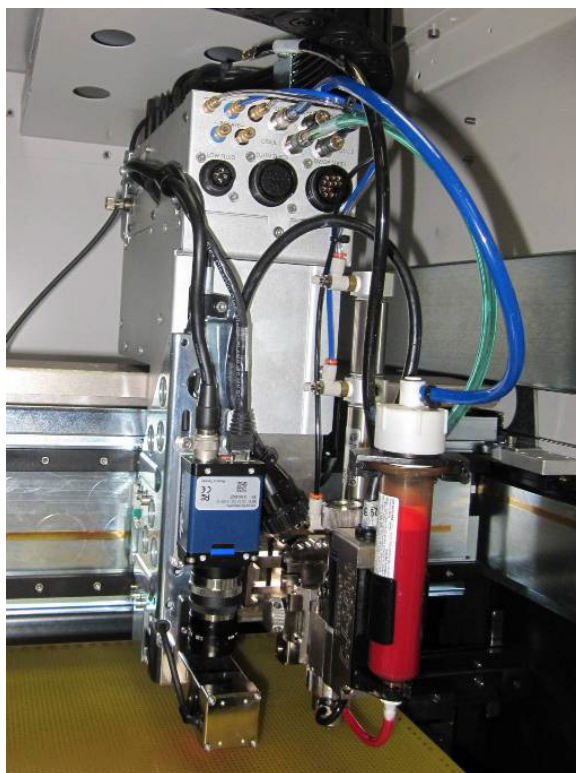

Figure 3-7 Valve Connections (Right/Left Bracket)
*To connect the valve hoses (Figure 3-7):*